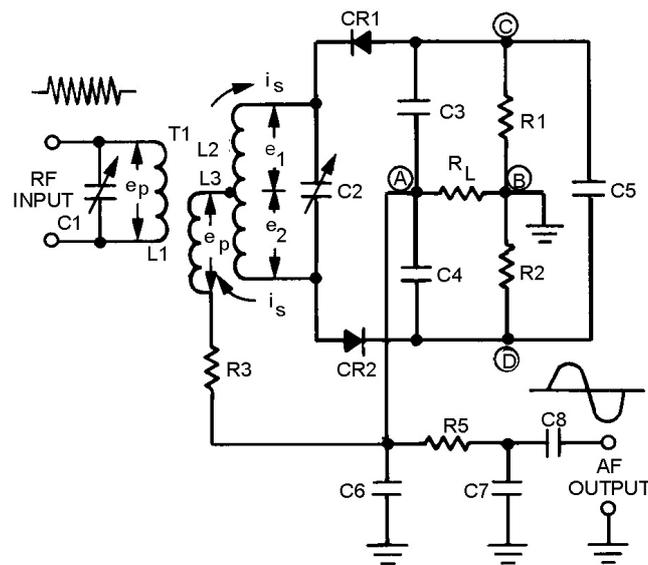

Figure 3-12.—Ratio detector.
Figure 3-12 shows a typical ratio detector. The input tank capacitor (C1) and the primary of transformer T1 (L1) are tuned to the center frequency of the fm signal to be demodulated. The secondary winding of T1 (L2) and capacitor C2 also form a tank circuit tuned to the center frequency. Tertiary (third) winding L3 provides additional inductive coupling which reduces the loading effect of the secondary on the primary circuit. Diodes CR1 and CR2 rectify the signal from the secondary tank. Capacitor C5 and resistors R1 and R2 set the operating level of the detector. Capacitors C3 and C4 determine the amplitude and polarity of the output. Resistor R3 limits the peak diode current and furnishes a dc return path for the rectified signal. The output of the detector is taken from the common connection between C3 and C4. Resistor  $R_L$  is the load resistor. R5, C6, and C7 form a low-pass filter to the output.
**OPERATION AT RESONANCE.**—When the input voltage  $e_p$  is applied to the primary in figure 3-12 it also appears across L3 because, by inductive coupling, it is effectively connected in parallel with the primary tank circuit. At the same time, a voltage is induced in the secondary winding and causes current to flow around the secondary tank circuit. At resonance the tank acts like a resistive circuit; that is,